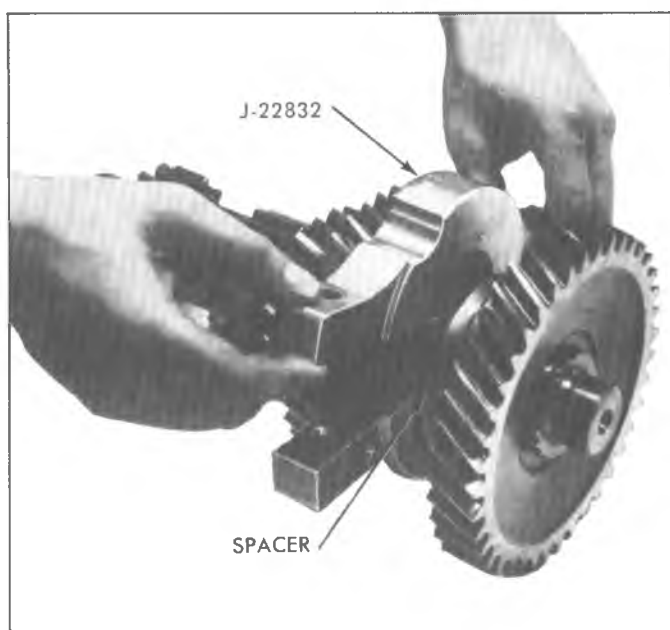

Fig. 20Q-Positioning Tool J-22832 On Countershaft
2. Install Tool J-22832 or suitable press plates on countershaft, open side to spacer, (fig. 20Q); support assembly in an arbor press and press countershaft out of clutch countergear assembly.